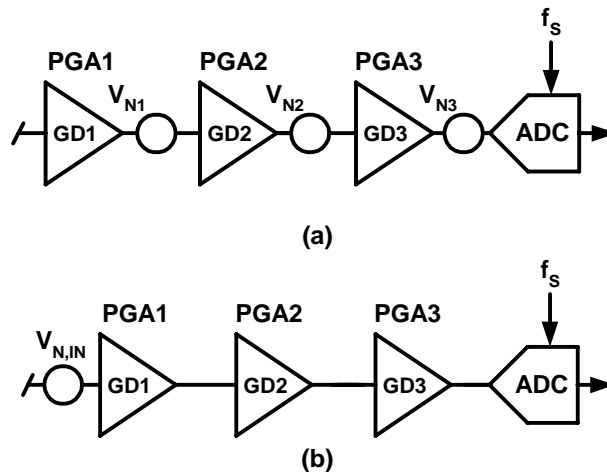
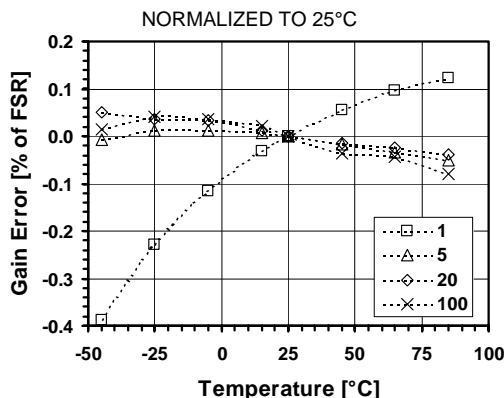

Figure 17-18. (a) Simple noise model for PGAs and ADC
Figure 17-19. Gain error vs. temperature for different PGA gains
- (1) Gain defined as overall PGA gain $GD_{TOT} = GD_1 \cdot GD_2 \cdot GD_3$. Maximum input voltage is given by: $V_{IN,MAX} = \pm(V_{REF}/2) \cdot (OSR/OSR+1)$.
- (2) Offset due to tolerance on $GDOFF_2$ or $GDOFF_3$ setting. For small intrinsic offset, use only ADC and PGA1.
- (3) Measured with block connected to inputs through AMUX block. Normalized input sampling frequency for input impedance is $f_s = 512kHz$. This figure must be multiplied by 2 for $f_s = 256kHz$, 4 for $f_s = 128kHz$. Input impedance is proportional to $1/f_s$.
- (4) Figure independent from PGA1 gain and sampling frequency f_s . See model of Figure 17-18(a). See equation Eq. 21 to calculate equivalent input noise.
- (5) Figure independent on PGA2 gain and sampling frequency f_s . See model of Figure 17-18(a). See equation Eq. 21 to calculate equivalent input noise.
- (6) Figure independent on PGA3 gain and sampling frequency f_s . See model of Figure 17-18(a) and equation Eq. 21 to calculate equivalent input noise.
- (7) Resolution is given by $n = 2 \cdot \log_2(OSR) + \log_2(N_{ELCONV})$. OSR can be set between 8 and 1024, in powers of 2. N_{ELCONV} can be set to 1, 2, 4 or 8.
- (8) If a ramp signal is applied to the input, all digital codes appear in the resulting ADC output data.
- (9) Gain error is defined as the amount of deviation between the ideal (theoretical) transfer function and the measured transfer function (with the offset error removed). (See Figure 17-19)
- (10) Offset error is defined as the output code error for a zero volt input (ideally, output code = 0). For ± 1 LSB offset, N_{ELCONV} must be ≥ 2 .
- (11) INL defined as the deviation of the DC transfer curve of each individual code from the best-fit straight line. This specification holds over the full scale.
- (12) DNL is defined as the difference (in LSB) between the ideal (1 LSB) and measured code transitions for successive codes.
- (13) Figures for Gains = 1 to 100. PSRR is defined as the amount of change in the ADC output value as the power supply voltage changes.
- (14) Conversion time is given by: $T_{CONV} = (N_{ELCONV} \cdot (OSR + 1) + 1) / f_s$. OSR can be set between 8 and 1024, in powers of 2. N_{ELCONV} can be set to 1, 2, 4 or 8.
- (15) PGAs are reset after each writing operation to registers RegAcCf1-5. The ADC must be started after a PGA or inputs common-mode stabilisation delay. This is done by writing bit Start several cycles after PGA settings modification or channel switching. Delay between PGA start or input channel switching and ADC start should be equivalent to OSR (between 8 and 1024) number of cycles. This delay does not apply to conversions made without the PGAs.
- (16) Nominal (maximum) bias currents in PGAs and ADC, i.e. $IB_AMP_PGA[1:0] = '11'$ and $IB_AMP_ADC[1:0] = '11'$.
- (17) Bias currents in PGAs and ADC set to 3/4 of nominal values, i.e. $IB_AMP_PGA[1:0] = '10'$, $IB_AMP_ADC[1:0] = '10'$.
- (18) Bias currents in PGAs and ADC set to 1/2 of nominal values, i.e. $IB_AMP_PGA[1:0] = '01'$, $IB_AMP_ADC[1:0] = '01'$.
- (19) Bias currents in PGAs and ADC set to 1/4 of nominal values, i.e. $IB_AMP_PGA[1:0] = '00'$, $IB_AMP_ADC[1:0] = '00'$.
The simple noise model of Figure 17-18(a) is used to estimate the equivalent input referred rms noise $V_{N,IN}$ of the acquisition chain in the model of Figure 17-18(b). This is given by the relationship:
Note: see noise model of Figure 17-18 and equation Eq. 21.
Figure 17-19 shows gain error drift vs. temperature for different PGA gains. The curves are expressed in % of Full-Scale Range (FSR) normalized to 25°C.